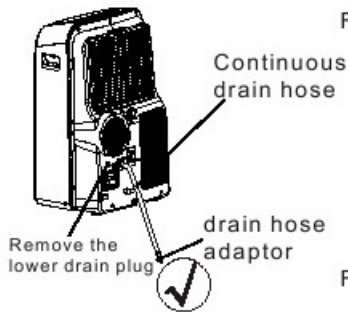

Fig.20b
- Remove the lower drain plug from back of the unit. (Fig.20b)
- Position the open end directly over drain area. (Fig.20b)